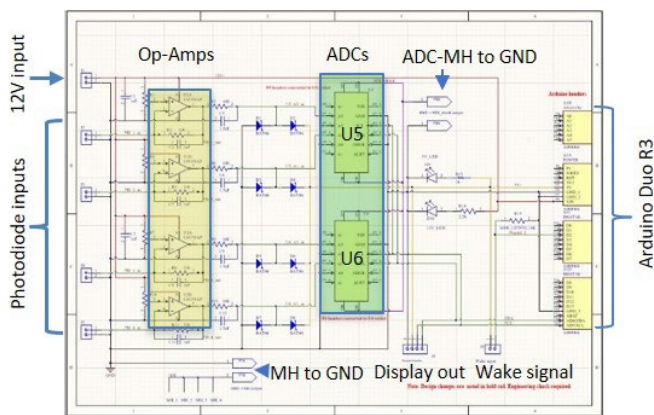

FIG. 1. Electrical schematic generated with Altium.
Figure 1 shows inputs for the photodiodes and power on board left and the Arduino sockets on board right; board bottom has a socket header to power a display screen for the ADCs' (U5 and U6) I2C signal outputs (green region), and a wake signal socket to turn on the digital display if it were to go into sleep mode. Four mounting holes (MH) sized for screws up to #8 facilitate connection to a copper pour that can be shorted to ground with a 0.100" header (MH to GND) located at board bottom. A 0.100" header (ADC-MH to GND) at board top enables grounding the mounting holes of the two ADCs U5 and U6.